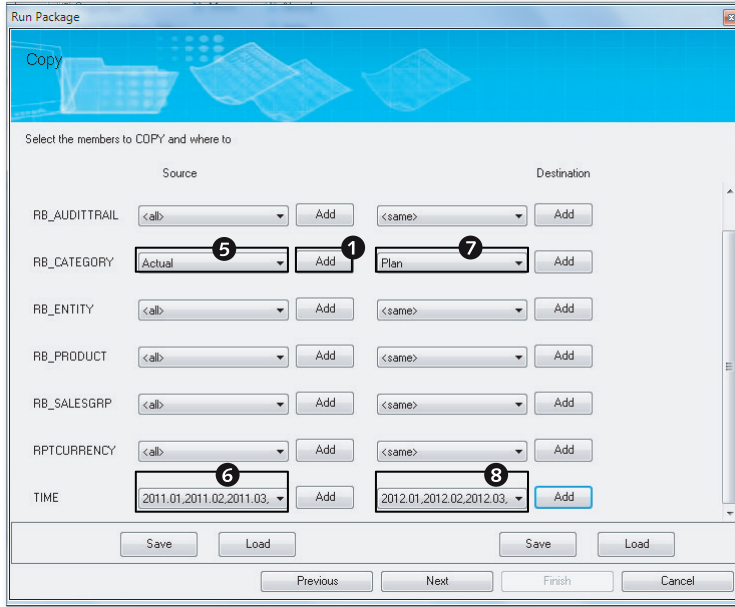
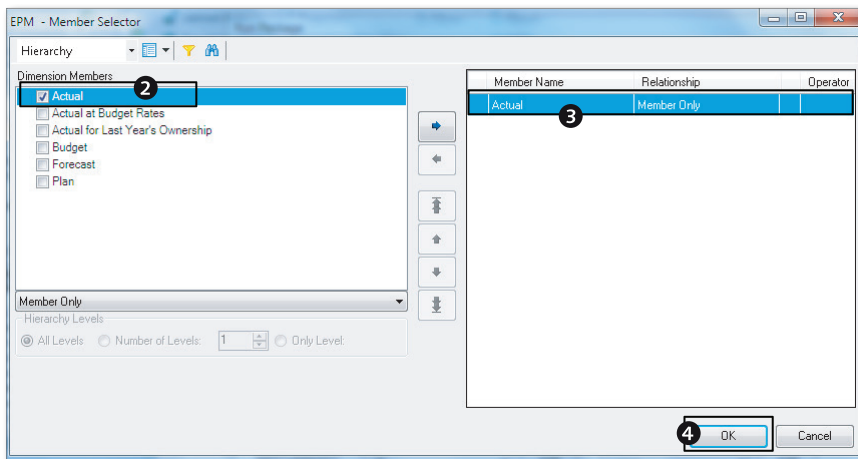

Figure 4.60 Copying Data Inside a Model—Part B
Figure 4.61 Copying Data Inside a Model—Part C
- You are now presented with the options to select the source value selections for every dimension in the model and the corresponding target values to which the data is to be copied. Our objective is to copy the data from the Actual category for 2011 to the Plan category for 2012. Under SOURCE dimensions, click on the ADD button for RB_CATEGORY to select a member value for the Category dimension (Figure 4.60, ❶). This opens the EPM - MEMBER SELECTOR dialog box to select values.
- Select the Actual member ID from the dimension members, and click on OK (Figure 4.61, ❷, ❸, and ❹). The selected value gets copied to the category dimension (refer back to Figure 4.60, ❺).
- Under SOURCE dimensions, select the ADD button for the TIME dimension to display a dialog box to select time periods. Select all of the 2011 time periods, and click on OK to return the values as the source data selected for the TIME dimension (refer back to Figure 4.60, ❻).
- Under DESTINATION dimensions, select the PLAN member ID for the RB_CATEGORY dimension (refer back to Figure 4.60, 7). Also under DESTINATION dimensions, select all of the 2012 time periods for the TIME dimension (refer back to Figure 4.60, 8).